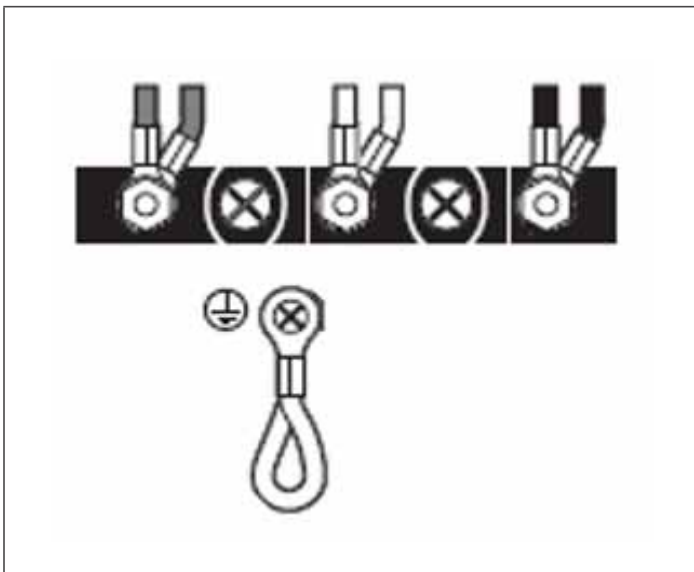
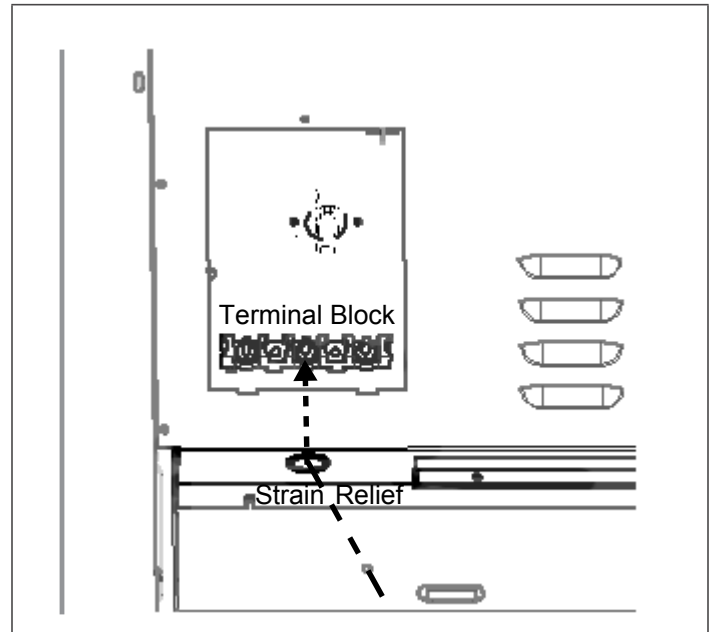

Figure 12: Terminal Block
Figure 13: Strain Relief Location
Mount a strain relief (not provided) into the 1" (25.4mm) diameter hole located below the terminal block (see Figure 13). Wiring for the unit is to be brought into the terminal block through the conduit and through the strain relief. The ends of the wiring must have 1/4" faston closed-loop lugs attached, preferably soldered in place. Make the connections to the terminal block provided (see Figure 12).
2. Mount strain relief (not provided with range) into the 1" (25.4mm) diameter hole in the back panel located below the terminal block (see Figure 13 and Figure 12). Route wires up through strain relief.
- Mount strain relief (not provided with range) into the 1" (25.4mm) diameter hole in the back panel located below the terminal block (see Figure 13 and Figure 12). Route wires up through strain relief.